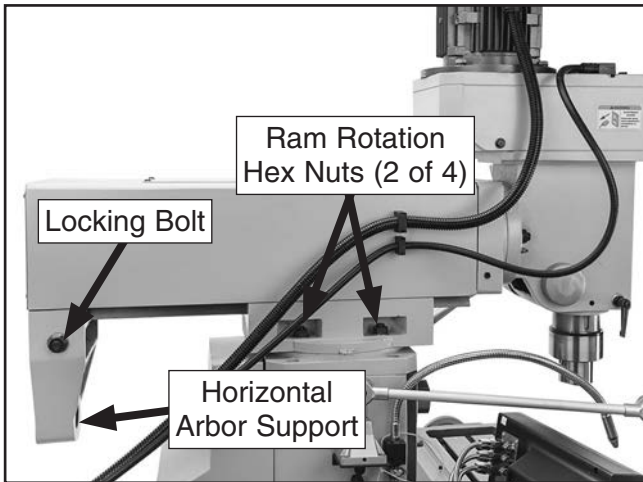
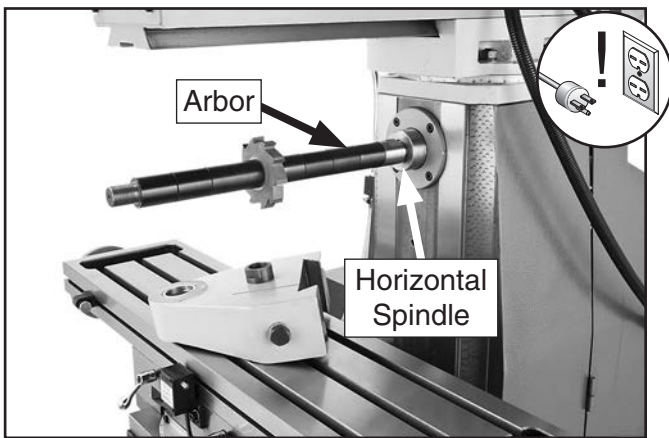

Figure 29. Horizontal arbor support, locking bolt, and ram rotation hex nut locations.
Figure 30. Horizontal arbor seated in spindle with ram fully extended and rotated 180 degrees.
2. Loosen locking bolt on side of arbor support, and slide support off ram dovetail way (see **Figure 29**).
3. Loosen ram rotation hex nuts (**Figure 29**), then rotate ram 180°, as shown in **Figure 30**.
7. Align keyway of arbor with protruding pin inside spindle taper, then firmly push arbor into spindle to seat it (see **Figure 30**).